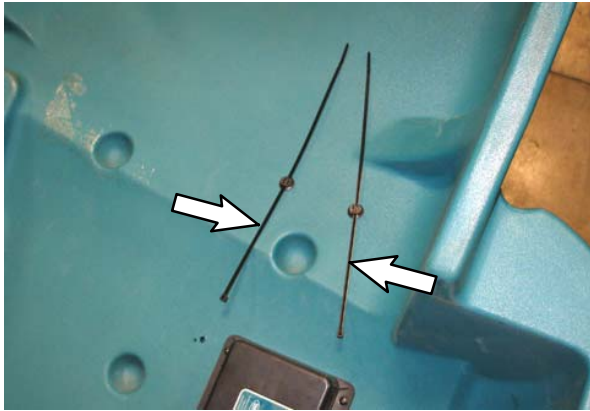

FIG. 11
10. Insert a cable tie (6) into each of the wire tie clips (5) above the telemetry module (1). (Fig. 11)
13. Install another wire tie clip (5). (Fig. 11)